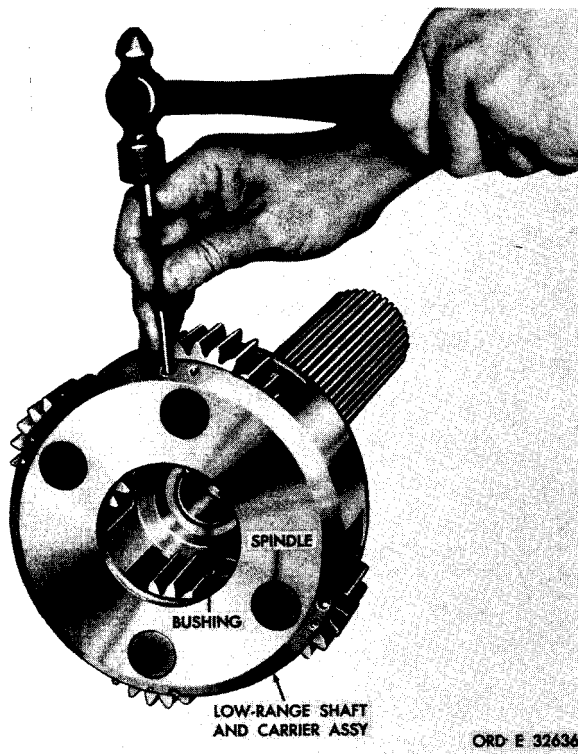

Figure 219. Removing spindle lock pin
a. Using a hammer and punch, remove the four planetary spindle lock pins retaining the planetary spindles (fig. 219).
j. Using a hammer and punch, install the planetary carrier spindle lock pin (fig. 219). Drive the pin in 0.030 to 0.060 below the surface of the carrier. Stake metal over the pin.